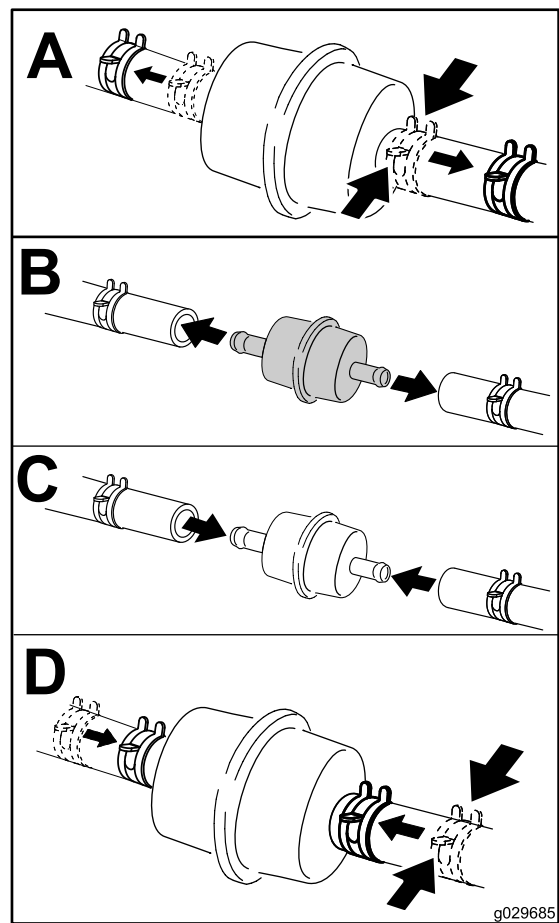

Figure 53
4. Replace the fuel filter as shown in Figure 53.